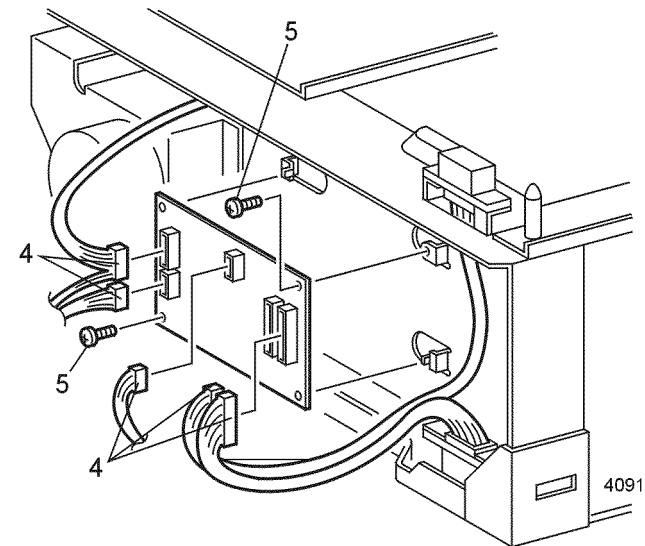

Figure 1 Feeder PWB
4. Disconnect P/J13B, P/J133, P/J138, P/J132, and P/J136 from the Feeder PWB (Figure 1).
5. Remove the two screws that secure the PWB to the printer frame (Figure 1). Remove the PWB.